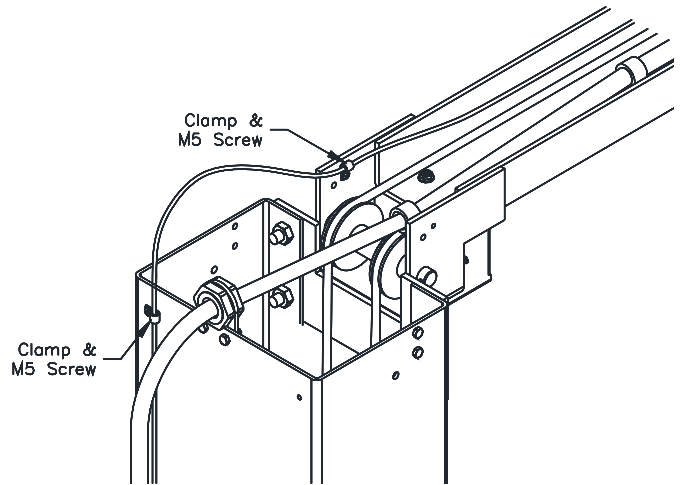

Fig. 10 – Lock Cable Routing
- 30) Secure Lock Release Cable at the top of each column extension as shown in **Fig. 10**. Lock Release Cable should be routed on the opposite side of the Overhead Beam as the Idler Hose to prevent interference.